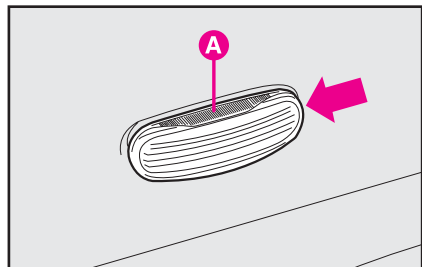

fig. 24
1) Press the lens **A-fig. 24** in the direction of the arrow so to compress the clip and remove the cluster.